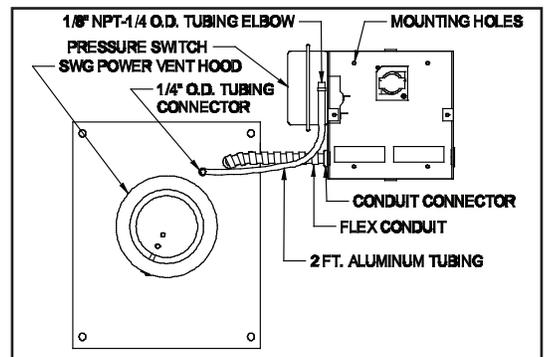

Figure 3
2. Fasten the flexible conduit from the SWG Venter into the conduit connector. Mount the CK-91FV junction box or installer supplied junction box onto the wall or floor joist without straining the flexible conduit. Fasten the CK-91FV junction box through the four dimpled locations on the base of the box. (See Figure 3)
1. Attach the 1/4" tubing connector to the pressure tube on the SWG Venter. (See Figure 3)